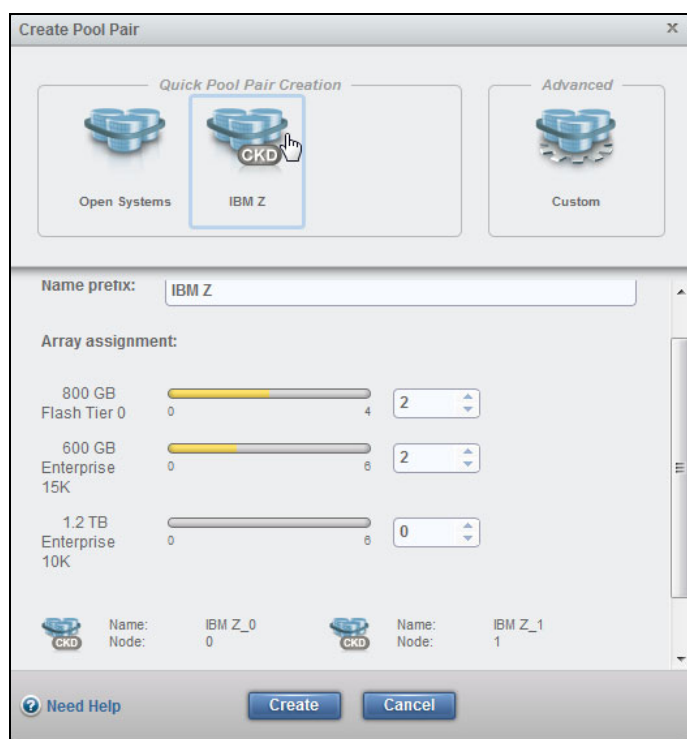

Figure 11-85 Create the CKD pool pair and assign arrays to the pool pair
4. In the Create Pool Pair window that is shown in Figure 11-85 on page 336 select the number of arrays to assign to the pool pair.